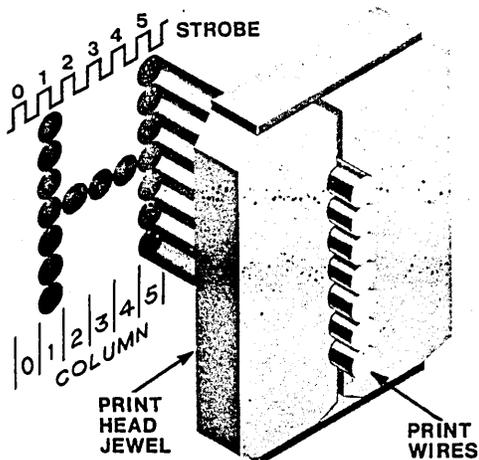

Figure 1-3. PRINTING THE LETTER (H)
1.3.1 CHARACTER PRINTING (Figures 1-3, 1-4)
A small aluminum carriage supports the print head assembly. During printing operation, the carriage travels along the print line from left to right. Printing is accomplished by selectively firing the print wires as the print head moves from left to right across the print line. Printing impulses energize the print solenoids and drive the print wires against the ribbon, paper and platen to form the characters in a dot matrix pattern. When the solenoids are de-energized, the wires are withdrawn so they are flush with the surface of the jewel. Each solenoid can fire independently up to five times for any one character. Figure 1-3 shows an example of the dot matrix forming the letter H. All character formations in the standard 9 x 7 dot matrix are shown in the Series 100 Operators Manual.